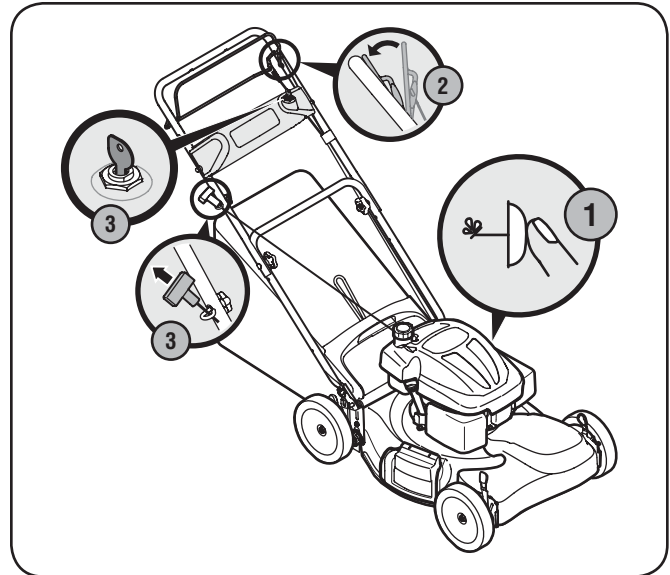

Figure 5-1
1. Push primer 3 times. Wait about two seconds between each push. See Fig. 5-1. In temperature below 50°F, prime 5 times. After the engine is warmed up, one prime may be needed for all temperatures.
3. **Recoil Start:** Pull the recoil starter lightly until resistance is felt, then pull rapidly to overcome compression, prevent kickback, and start the engine. Repeat if necessary. See Fig. 5-1.
**Electric Start:** Turn ignition key to the right to start the engine. Release the key after the engine starts. See Fig. 5-1.